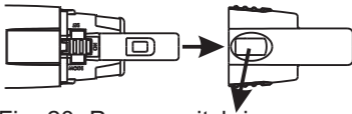

Fig. 20: Power switch is exposed
1. To prevent users from powering off the microphone accidentally, take out and reverse the protective rear cover, Fig. 20 & 21.